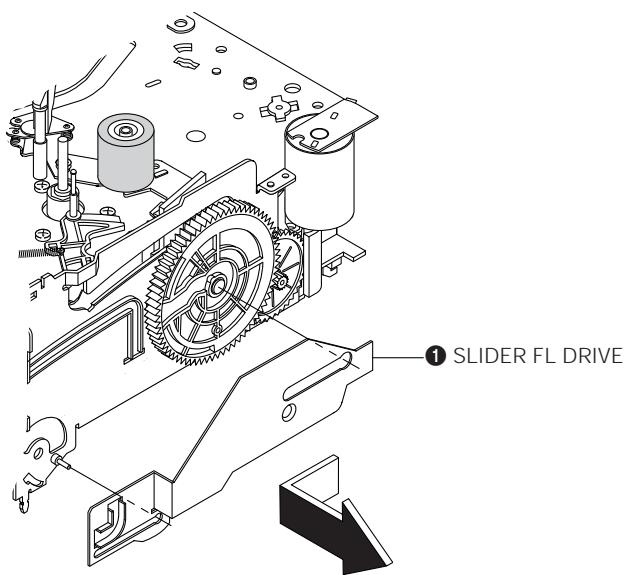

Fig. 1-8 Slider FL Drive Removal
- 1) Pull the Slider FL Drive ① to the front direction.
- 2) Remove the Slider FL Drive ① in the direction of arrow. (Refer to Fig. 1-8)